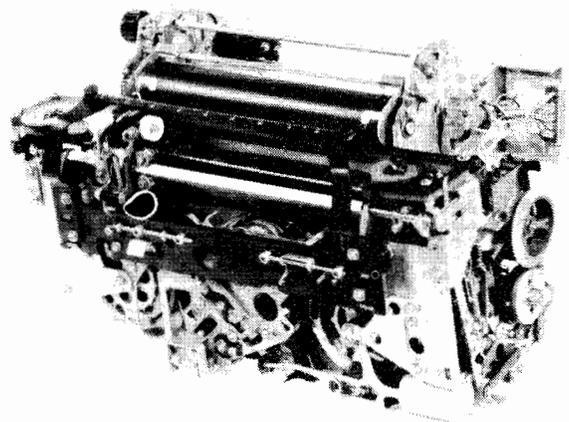

Figure 1 - 37 Typing Unit
1.01 This section describes the procedures for the disassembly and reassembly of the principal sub-assemblies which comprise the late design Model 37 Typing Unit (Figure 1).
1.10 Reference in the procedures to left or right, up or down, top or bottom, etc, refer to the unit as viewed facing the front plate assembly (Figures 1 and 2).